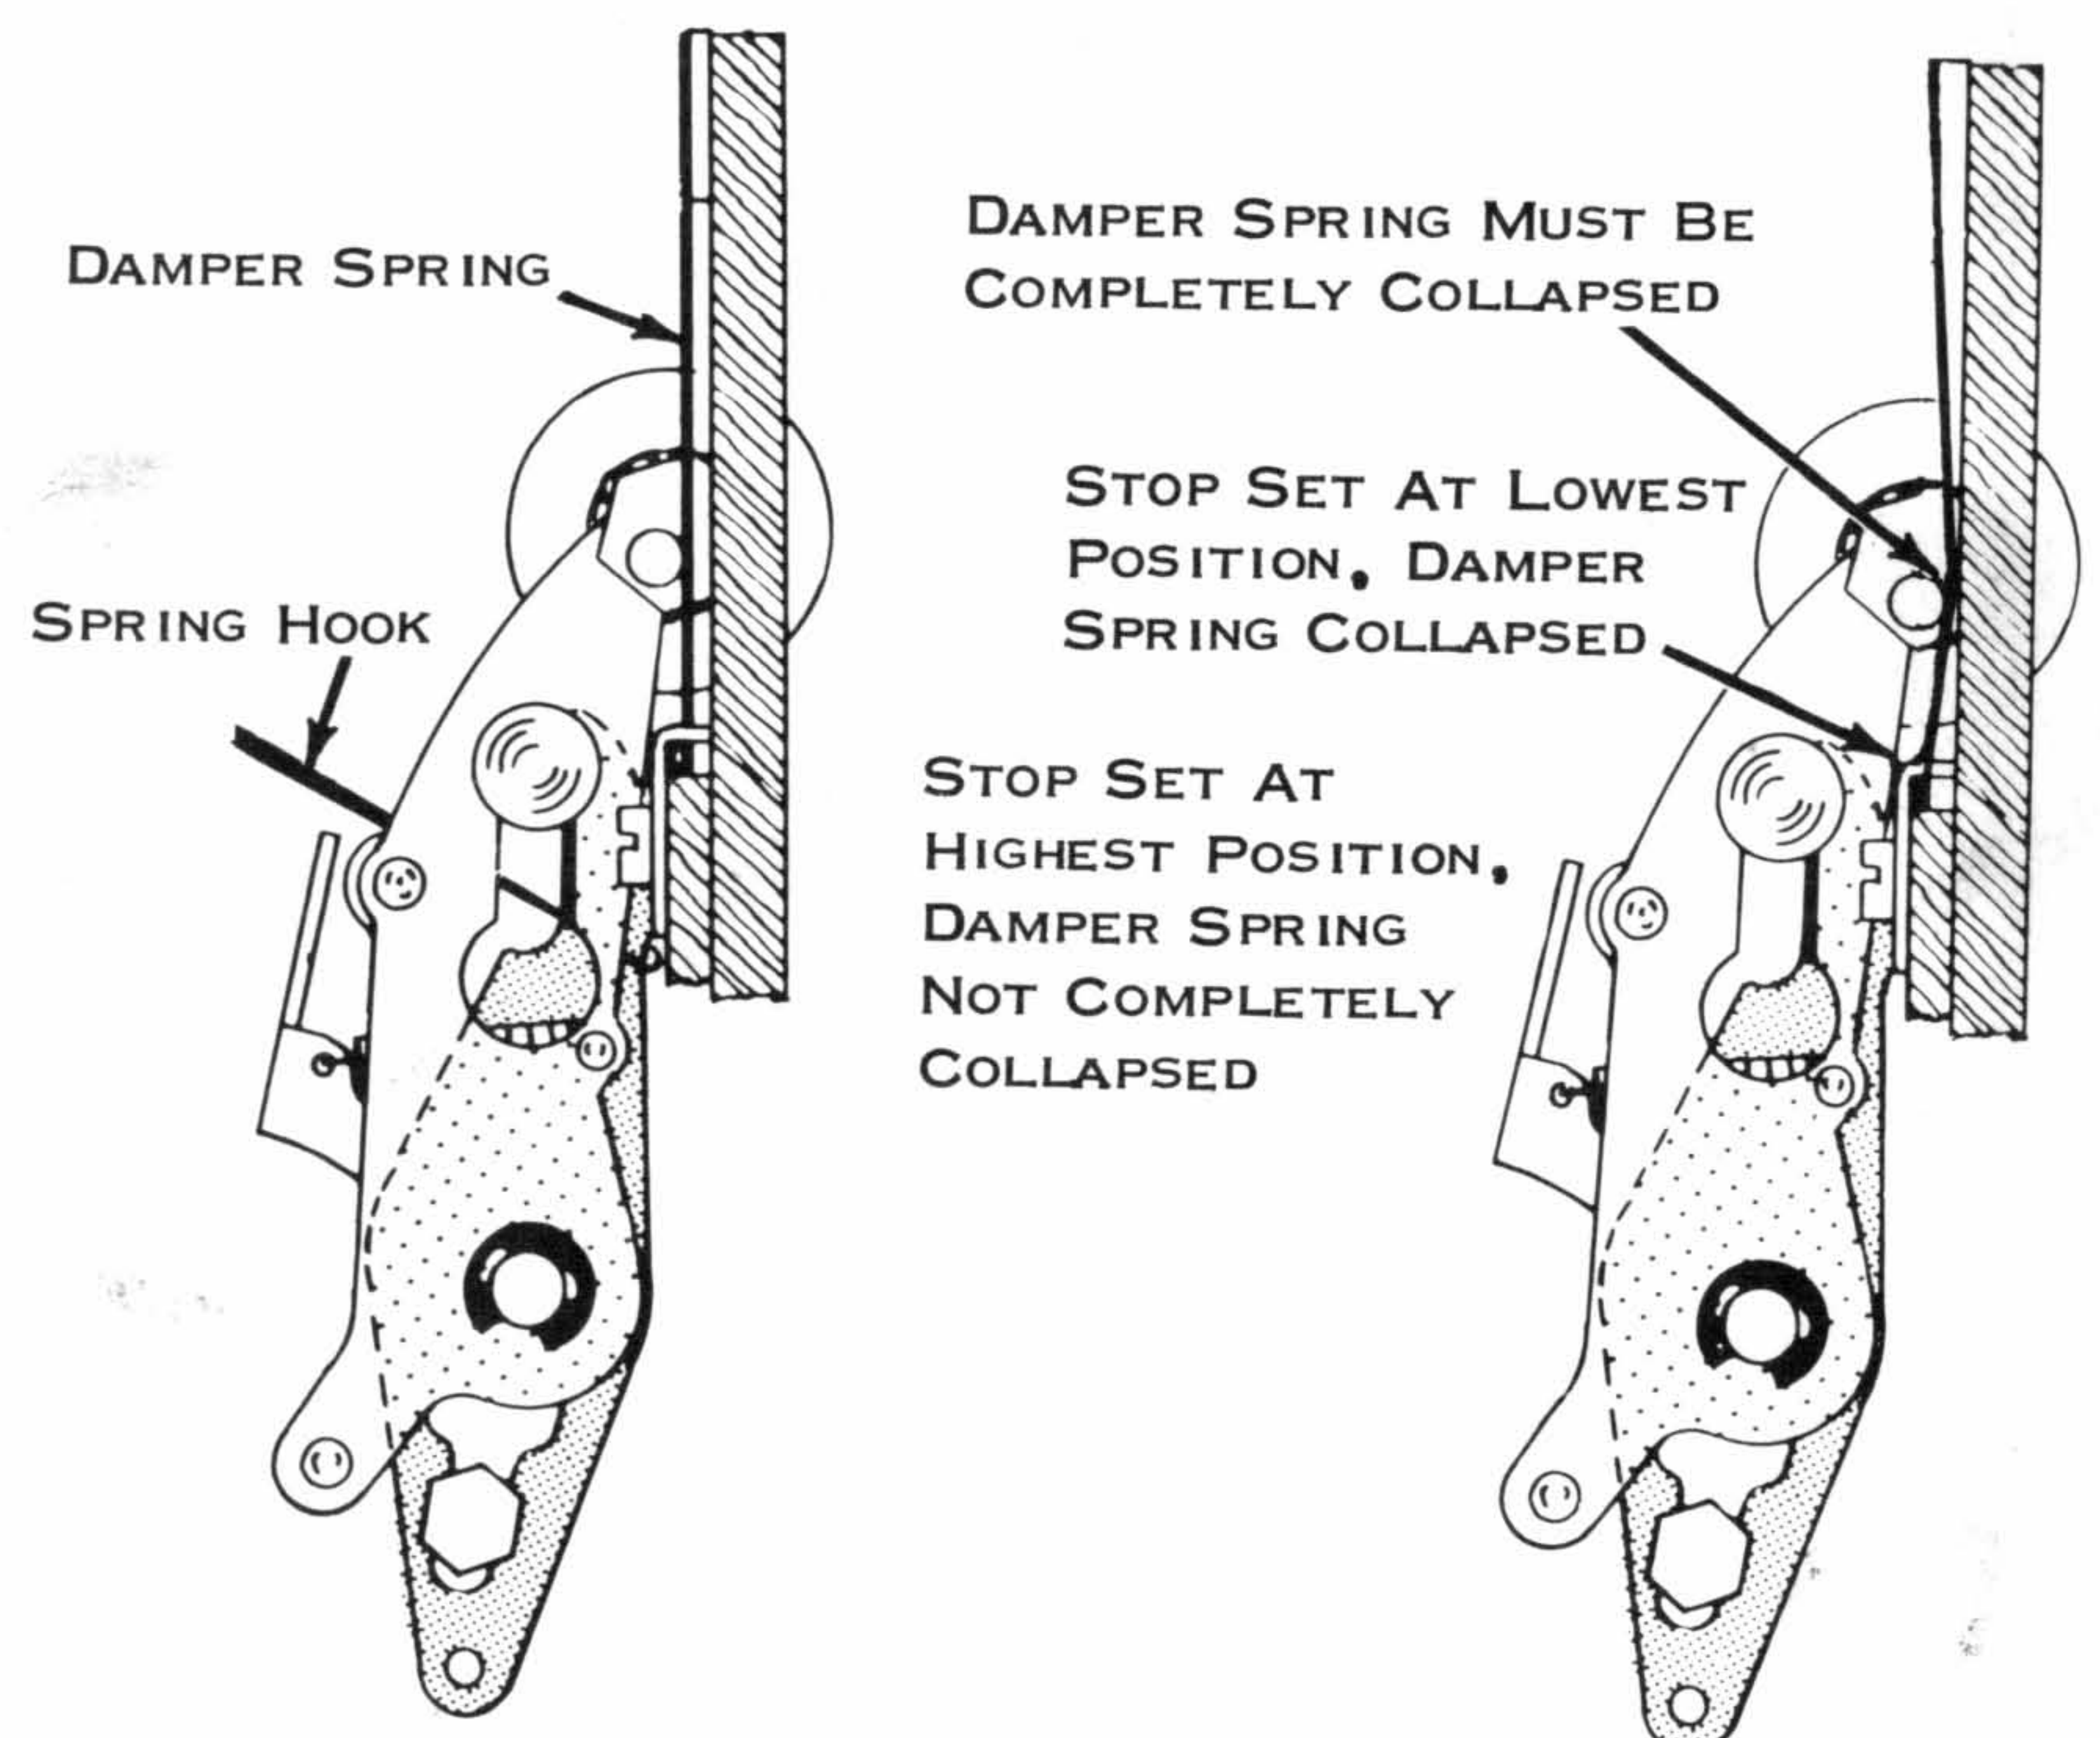

Figure 75. Rotate Spring Tension
1. Rotate Spring Tension (Fig. 75) - The rotate spring should be adjusted in the rocker so that it will have 2 pounds tension when the machine is half cycled to a lower case (machines which are locked in upper case use upper case -5 character) negative 5 position. Measure the tension with a spring scale hooked over the shift arm adjacent to pulley. If a spring scale is not available, the tension may be obtained in the following manner. With the machine half-cycled at a negative five lower case (machines which are locked in upper case use upper case -5 character) position and the type head removed, insert a large spring hook around the lower compensator arm. Pull so that the rotate arm eccentric just clears the damper spring and release it. The tension of the rotate spring should be enough to completely collapse the damper spring against the power frame with the damper spring stop adjusted at the bottom of the spring.